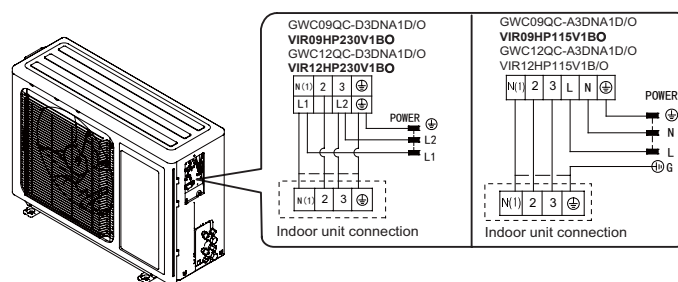

Fig.23
- (1) Remove the wire clip; connect the power connection wire and power cord to the wiring terminal ; fix them with screws.(As show in Fig.23)